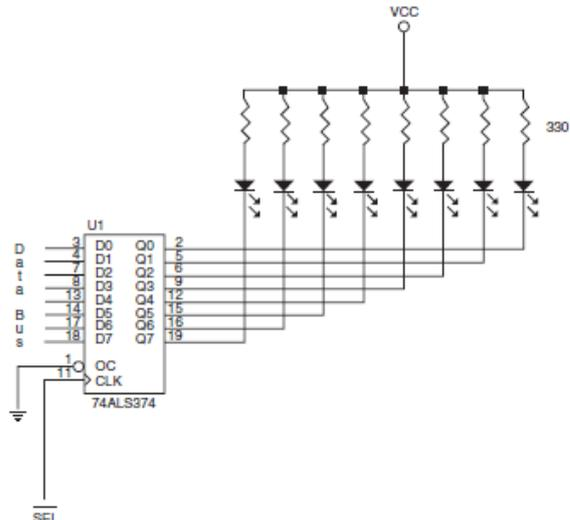

Figure 11-4: The basic output interface connected to a set of LED displays
- The basic output-interface receives data from the microprocessor and usually must hold it for some external-device (Figure 11-4).